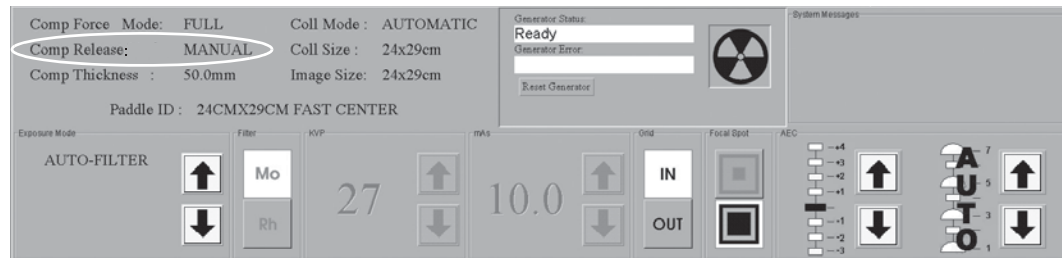

Figure 2-4: Compression Release Set at Manual
- After closing the Standard Setup window, confirm that Manual Release has been activated by checking the settings in the lower left hand part of screen. See Figure 2-4.